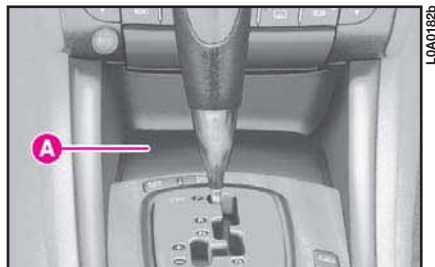

fig. 21
During emergency or servicing operations, the CID device shall be housed in the dashboard central oddment compartment **A** (fig. 21) in front of the gear lever.
Car start-up will moreover be possible by positioning the CID into the special seat **A** (fig. 21), located in front of the gear lever. Under these conditions, such compartment is the only position capable of acknowledging the presence of a CID device inside the passenger compartment.
- Lay the CID device into the emergency seat **A** (**fig. 21**)
IMPORTANT Set free from any object compartment **A** (**fig. 21**), before starting the emergency engine start-up procedure.